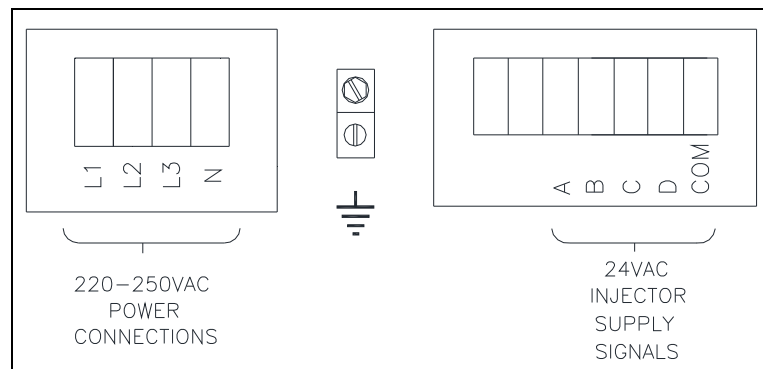

Figure 1-5: Electrical Connections and Chemical Supply Signals
- 1.6.1.2 Remove the rear panel near the upper left corner of the washer and locate the power terminal block near the back of the control compartment. Connections are as shown in Figure 1-5.